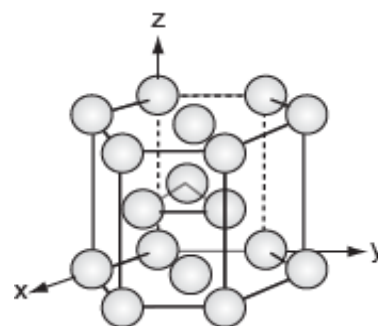

Figure C35. The HCP unit cell.
E33. (a) The cleavage-plane (the plane of easy fracture) in the HCP structure is the (001) plane. Mark it on Figure C35.